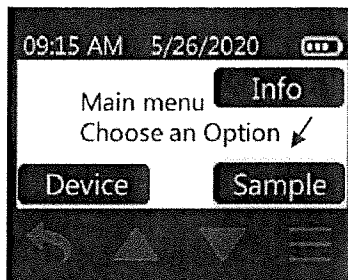

Figure 31. Sample Button
1. Press the main menu button (three Horizontal lines below the display) to get to the Main Menu and touch Sample (Figure 31).